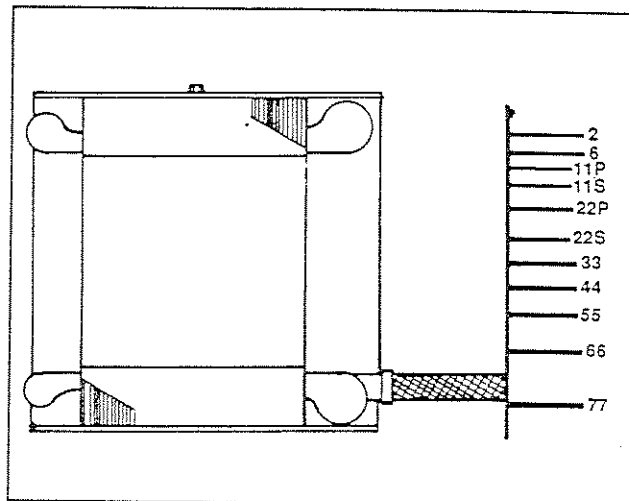

Figure 4. Stator Assembly Leads
The stator can houses and retains (a) dual AC power windings, (b) an excitation winding, and (c) dual battery charge windings. Leads are brought out of the stator can to form a "3-wire", 1-phase, AC connection system (see "Voltage Code A" on Page 1.2-1). In addition, excitation winding leads 2 and 6 plus battery charge winding leads 55, 66 and 77 are brought out, for a total of eleven (11) leads as shown in Figure 4.